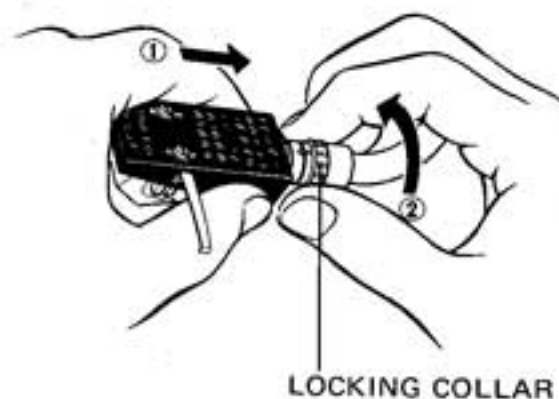

Fig. 8
5. Install headshell on tonearm according to Fig. 8 on the following page.
Insert the headshell into the tonearm sleeve and lock it in place by turning the locking collar. (Fig. 8)